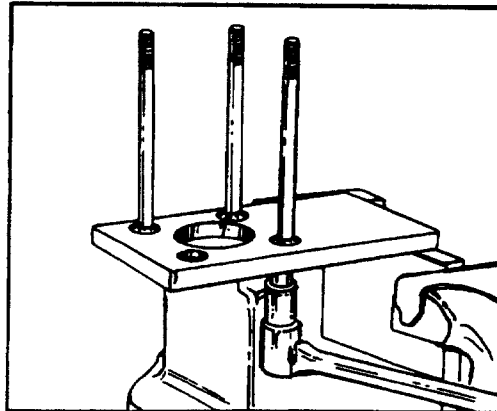

FIGURE 44.
1. Place four bolts (40) into fixture with shortest threaded end of bolts through the fixture holes. Secure bolts to fixture with four 5/16-24 UNF nuts. Tighten nuts to secure assembly to fixture but loose enough to turn bolts and facilitate stacking of components. See figure 44.